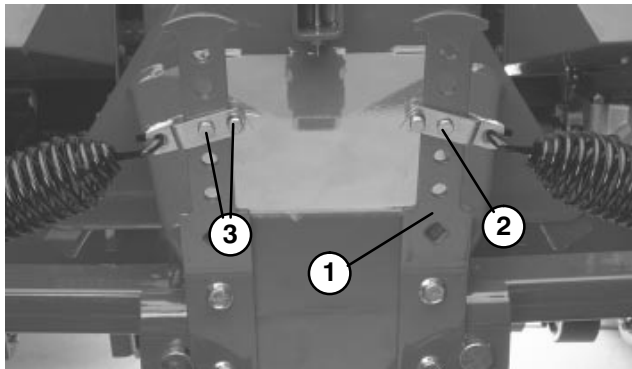

Figure 31
2. Secure other end of spring to appropriate hole on counterbalance arm with spring shackle, clevis pin and cotter pin (Fig. 31) as follows: